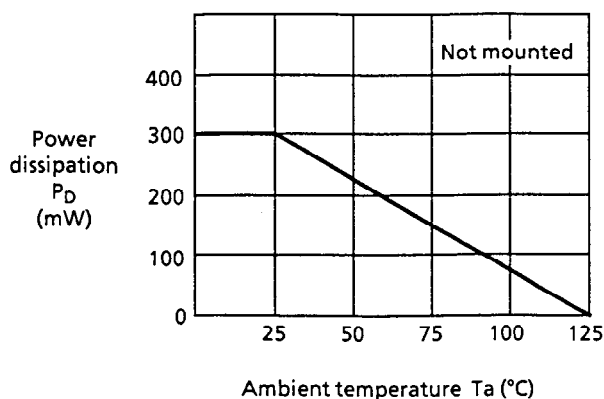

Figure 20 Power dissipation
- Power dissipation of SSOP8 package is shown as Figure 20.